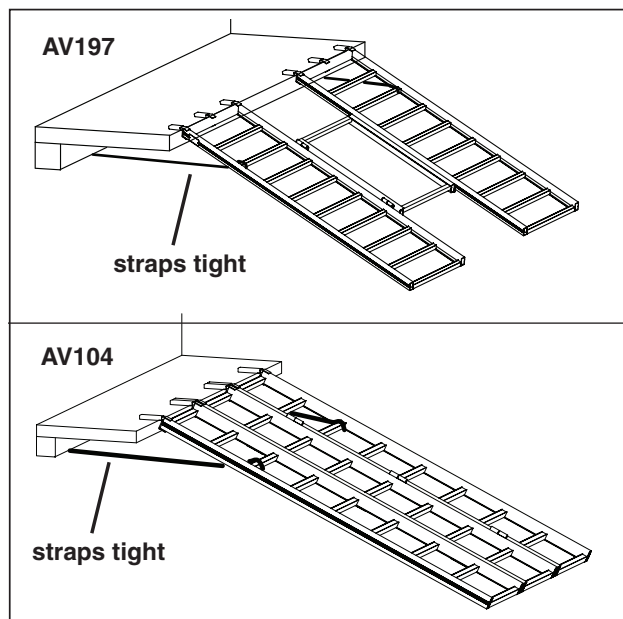

FIGURE 2
1. On level ground, open ramp completely and rest on tailgate, **SEE FIGURE 2.** Be sure ramp is centered on tailgate.